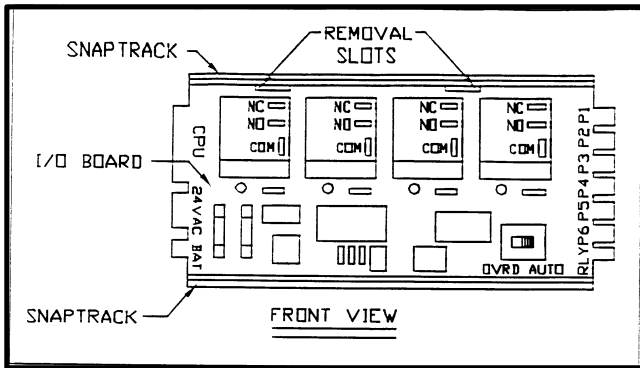

Figure F-1: I/O Board (with Removal Slots) and Snaptrack
- > Before inserting the I/O Board into or removing it from the snaptrack, locate the **REMOVAL SLOTS** at the top of the I/O Board. (See **Figure F-1**)